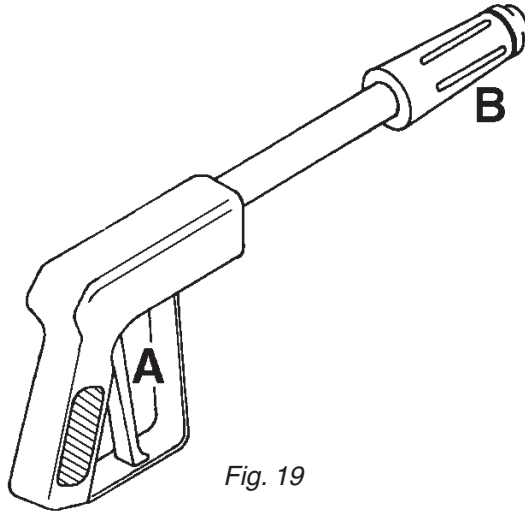

Fig. 19
8. Then depress the red handle **A** (Fig. 19) to spray fluid from the spraygun. Check the pressure on the system pressure gauge **3** (Fig. 18) and follow step **6** to adjust.
9. To adjust the spray pattern, turn the black handle **B** (Fig. 19) OUT for a narrow spray pattern for long distances and IN for a wide pattern for more coverage at close distances.